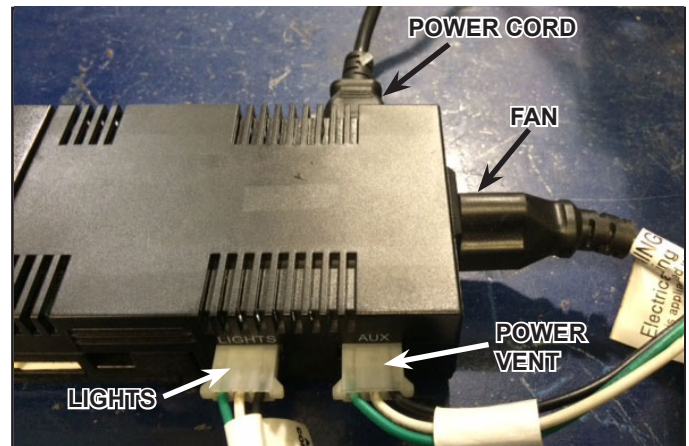

Figure 4 Fan, Lights and Power Vent Connection
- To connect a fan kit to the IFT-ACM, insert the three prong male plug from the fan into the receptacle located on the right side of the IFT-ACM. See Figure 4.
- To connect a light kit to the IFT-ACM, remove protective rubber cap labeled 'LIGHTS' and connect to the female cord that was supplied in your lights kit into the three male pins on the IFT-ACM. See Figure 4.
- To connect a power vent kit to the IFT-ACM, remove protective rubber cap labeled 'AUX' and connect to the female cord that was supplied in your power vent kit into the three male pins on the IFT-ACM. See Figure 4.
8. Connect the female end of the power cable that came with the kit into the IFT-ACM. Ensure that power cable is securely and fully inserted into the IFT-ACM. Plug the three prong male plug into the junction box of the appliance. Verify that the junction box has power. See Figure 4.